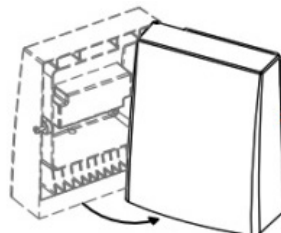
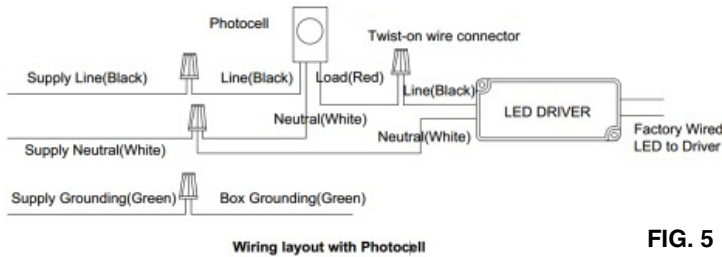
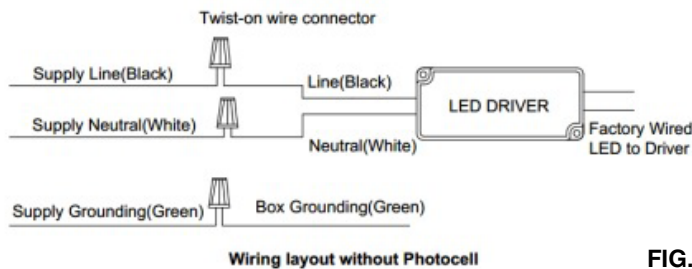

FIG. 3
FIG. 5
FIG. 6
2. Utilize twist-on connectors to make electrical connections (FIG. 5, 6). All electrical connections must remain inside back box. Fasten the wires by a provided cable tie, prior to closing and securing enclosure. Tighten enclosure screw to seal fixture. (FIG.3)
2. Please refer to FIG.5 or FIG.6 for wiring, remove the screw at the knuckle of the Mounting Pole by screw driver put the wires pass through the hole of the Mounting Pole.
2. Open the back box put the wires (SJTW 18AWG/3C)(provided by others) into the back box from the strain relief, twist the strain relief tightly (FIG.11), refer to FIG.5 or FIG.6 for wiring.